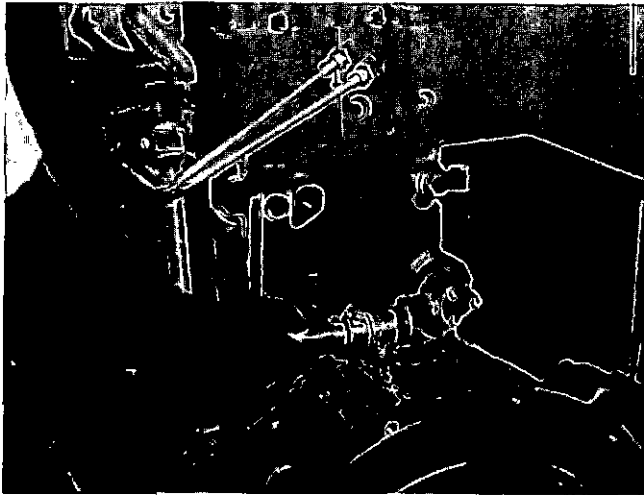

Fig. 0-21. Remove The Tube From The Rear Of The Aftercooler.
2. Loosen the clamps and remove the water crossover tube from the rear of the after-cooler, Fig. 0-21.